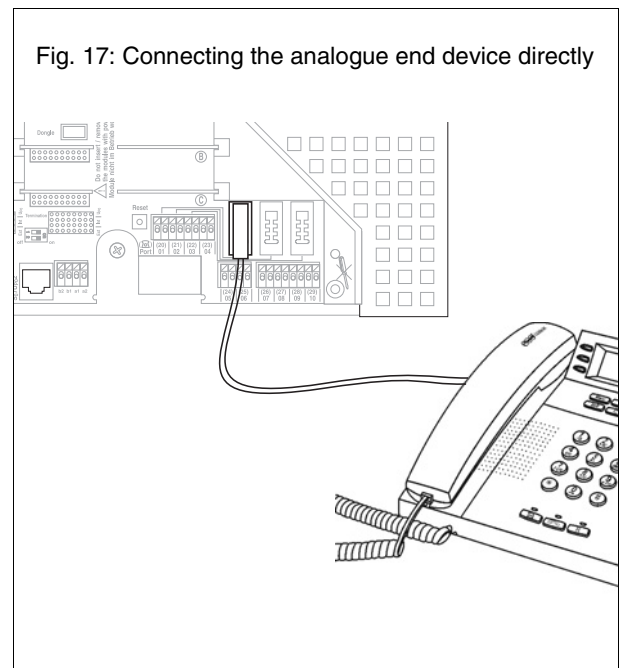

Fig. 17: Connecting the analogue end device directly
1. Connect the end device to an internal a/b port as shown in Fig. 17.